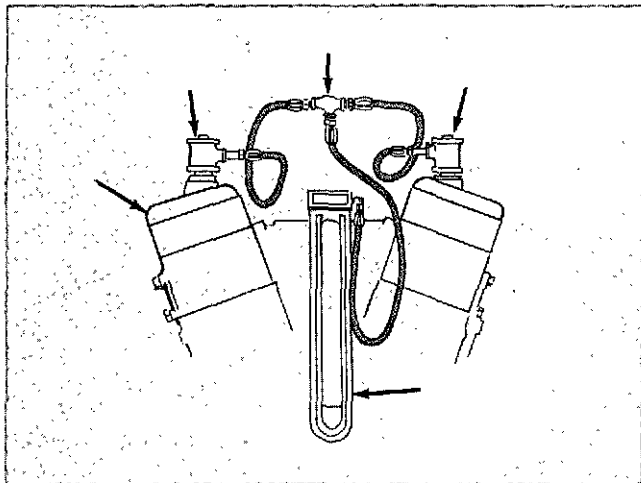

Fig. 14-2-1, V41488. Checking blow-by with ST-487
16. Install ST-487 Blow-By Checking Tool (2, Fig. 14-2-1) to each bank crankcase breather opening or special rocker cover (1) with adapter.
17. Tee (3) both ST-487 tools to water manometer (4) and fill manometer with water to "O" mark at middle of scale.